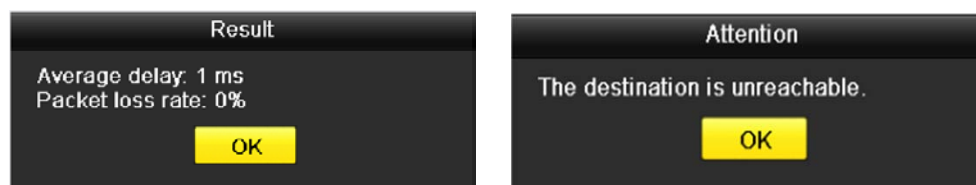

Figure 9.23 Testing Result of Network Delay and Packet Loss
2. Click the **Network Detection** tab to enter the Network Detection menu, as shown in Figure 9.23.